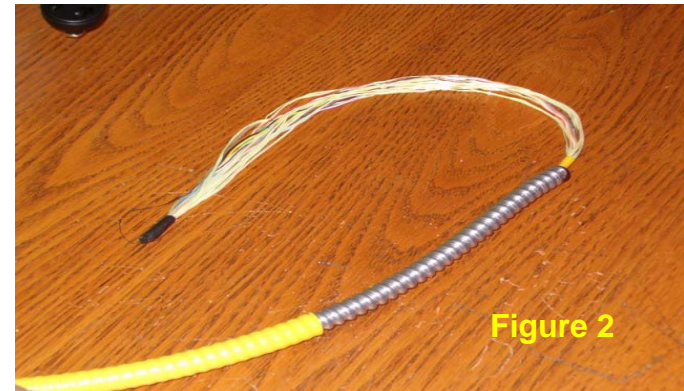

Figure 2
4. If a rip cord is provided with the cable, use the box cutter to carefully ring cut the optical cable sheath one inch from the cable end. Remove the sheath. Locate the rip cord and carefully nick the cable sheath next to the rip cord. Using the narrow neck pliers, wrap the rip cord and cut the sheath until reaching $\frac{1}{2}$ inch from the armor. Using the shears, remove the sheath to this point. Secure the strength yarns of the cable at the tip using the friction tape. If a rip cord is not present, use the coaxial stripper to ring cut the cable sheath every six inches until reaching within $\frac{1}{2}$ " of the exposed armor. Remove these cable sheath segments. See Figure 2.